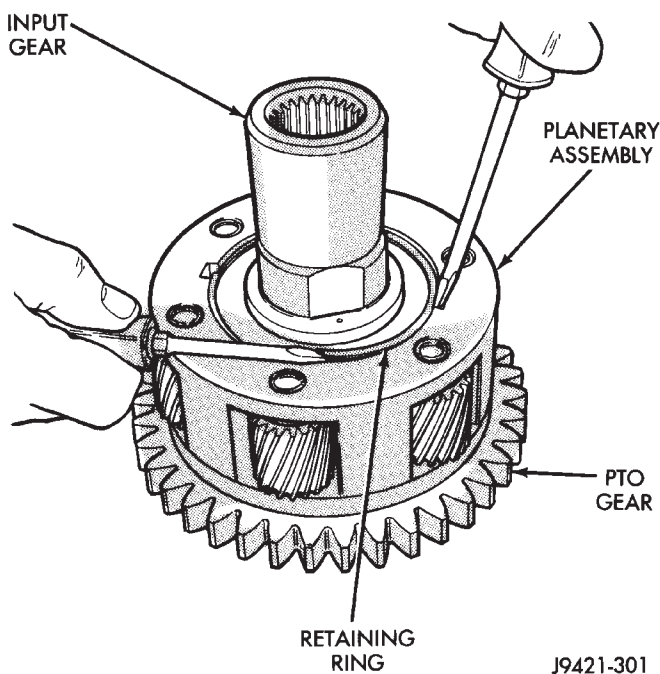

Fig. 42 Removing Lock Ring/Input Gear Retaining Ring
(1) Position planetary assembly so PTO gear is on bench (Fig. 42).
(2) Remove retaining ring that secures input gear and lock ring in planetary assembly.